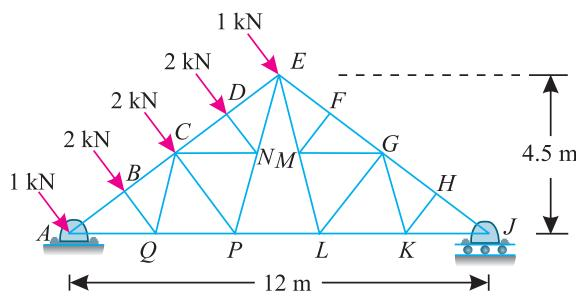

Fig. 12.40.
5. A roof truss of 12 m span and 4.5 m height is loaded as shown in Fig. 12.40.